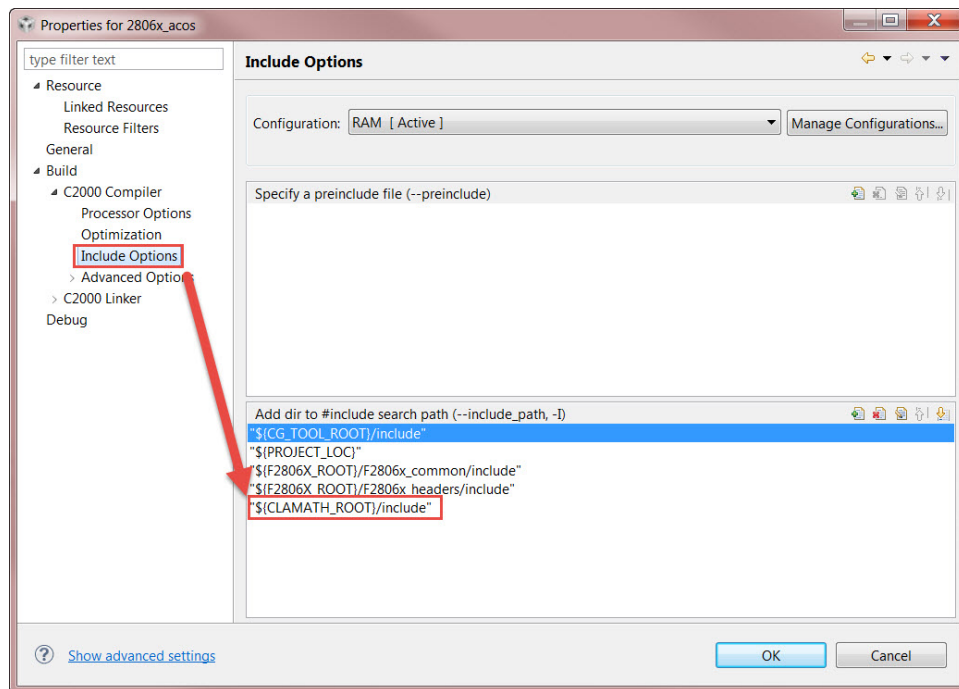

Figure 4.6: Adding the Library Header Path to the Include Options
2. Add the new path, **CLAMATH_ROOT/include**, to the *Include Options* section of the project properties (Fig. 4.6). This option tells the compiler where to find the library header files.